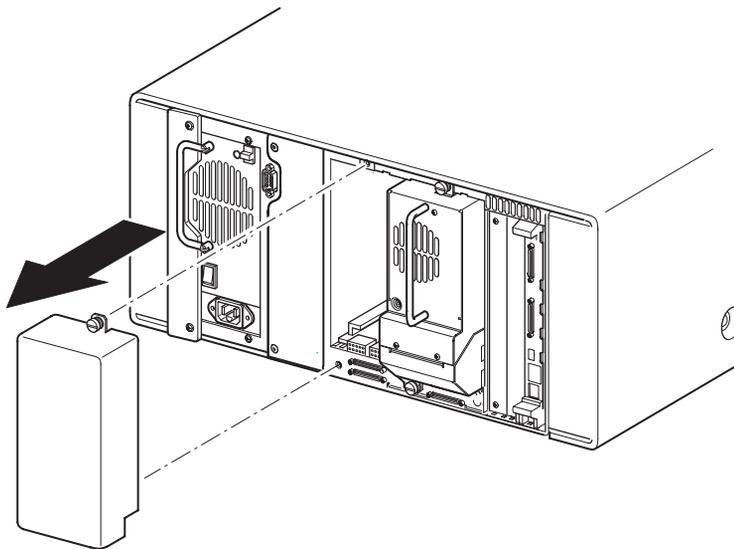

Figure D-1: Removing a tape drive mounting bay blank panel (MSL5026 shown)
2. Remove the blank panel that covers the appropriate tape drive mounting bay (see Figure D-1). Save the blank panel for future use.